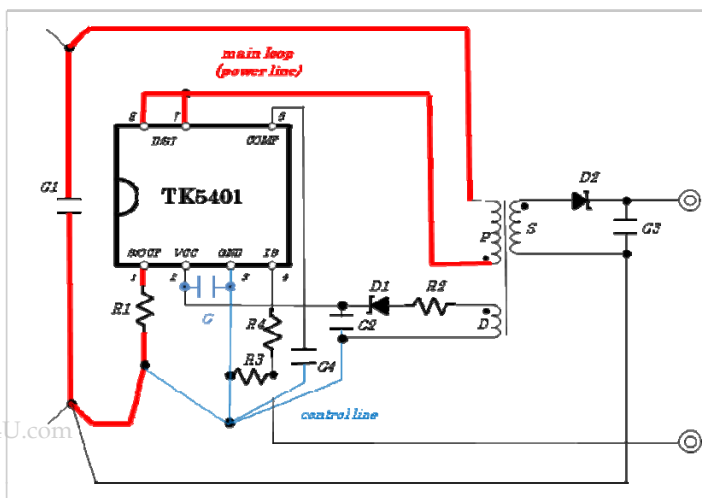

Figure12 Connect Pattern Example
- (1) Shown it in figure 12, please wire it as possible thick and short for the loop patterns from S/OCF terminal to D/ST terminal of the IC so that switching current flow.
- (2) Please wire it as possible thick and short for the pattern of Vcc line. please insert a film condenser C (a level of 50V/0.1 μ F) between Vcc terminal and GND terminal when the IC and distance with C2 are long by all means.
- (3) Drain terminal recommend so that make it as possible big pattern to be effective against the dissipation of heat.
- (4) Please wire it as possible short between S/OCF terminal and current sense resistor R1. In addition, please separate power GND and control GND by the other pattern well.